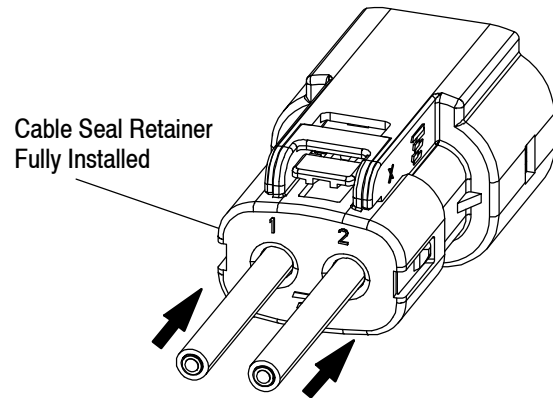

Figure 15
4. Fully install the cable seal retainer as shown in Figure 15 over the back of the plug connector outer housing, making sure that the bridge feature is correctly aligned with the connector latch feature.